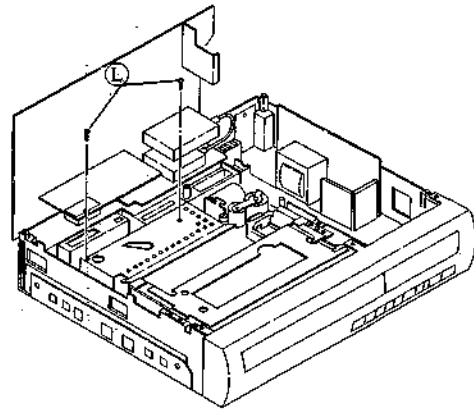

Fig. 1-1-11
2. Refer to Fig. 1-1-11 take out 2 screws (L) and remove the drum shield.